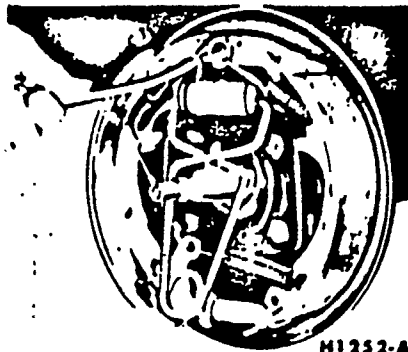

Fig. 21
5. Install the primary shoe to anchor spring with a special retractor spring tool. (fig. 21)
7. Install the secondary shoe to anchor spring with the special tool. (see fig. 21) Be sure that the cable end is not cocked or binding on the anchor pin when installed. Remove the brake cylinder clamp.